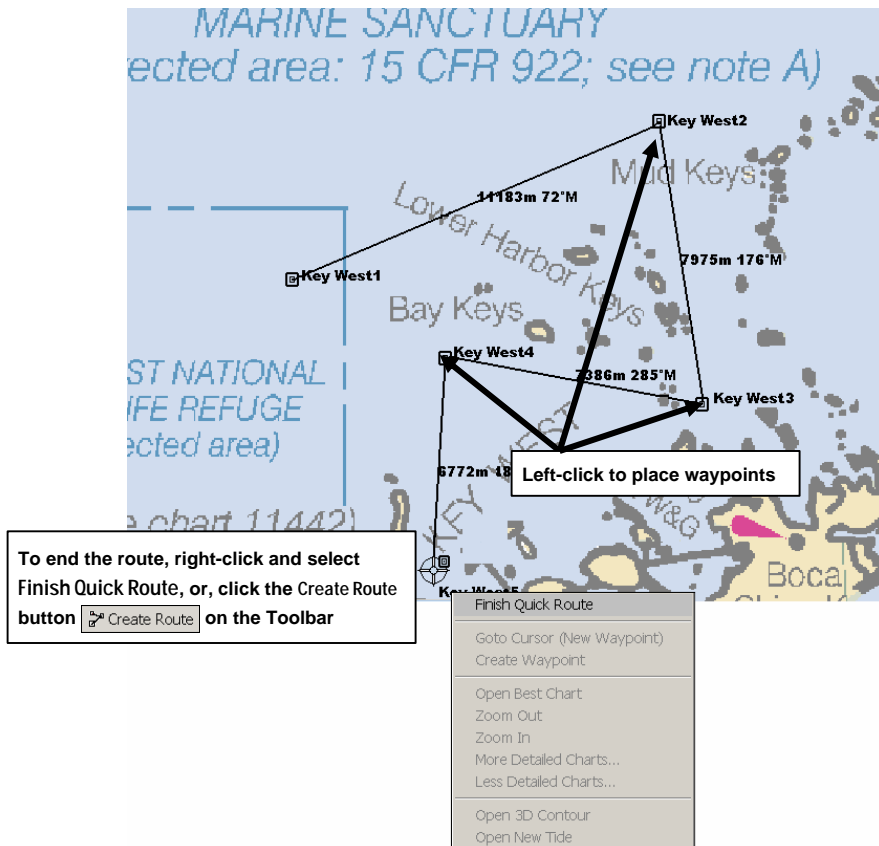

Figure 4-9. Completing a Route
The route name along with the range and bearing of each leg is displayed between each waypoint (Figure 4-9).
- As shown in Figure 4-9, when you reach the end of the route, right-click and select **Finish Quick Route**, or just click the **Create Route** button  on the toolbar.